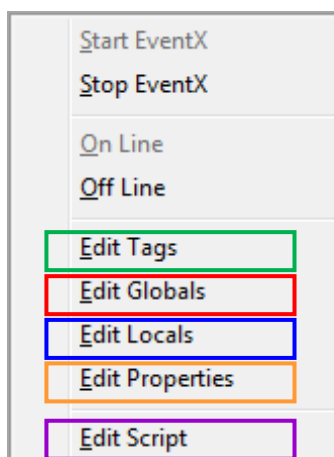

Fig. 27: Context menu when right-clicking EventX No.
**Edit Globals** in Fig. 27 is used for definition the so-called Global variables. Global variables can be accessed from all EventX of the belonging FuzEvent application. Global variables may thus be used to transfer information from one EventX to another EventX in the same application